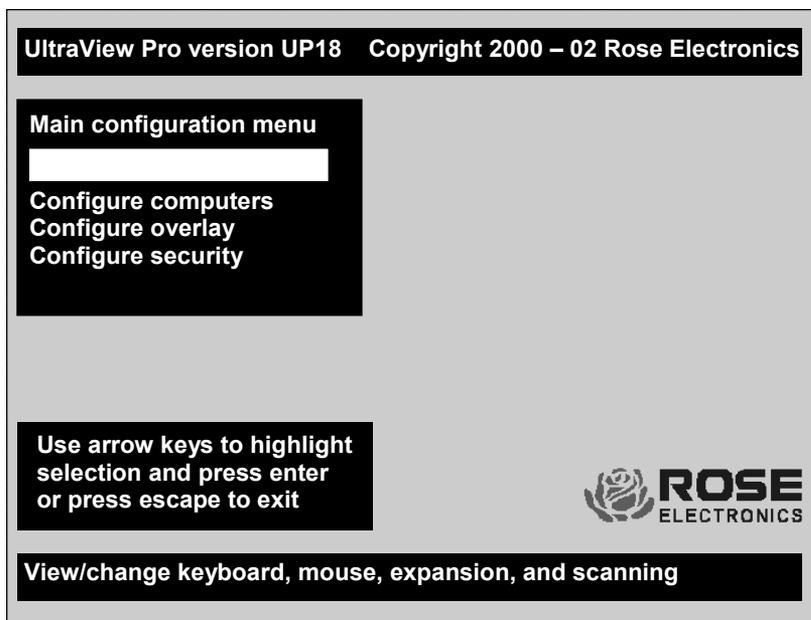

Figure 10. Main configuration menu
5. When all slave units are connected, call up the UltraView Pro's "Main configuration" menu by pressing and releasing the left control <Ctrl> key, then the F12 key. (See Figure 10).